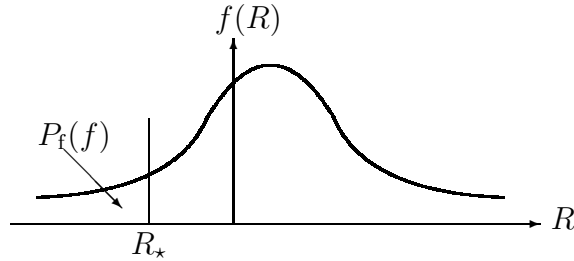

Figure 14: $q(c, f)$ is the c th quantile of $f(R)$.
- Given R_* , the failure probability is (fig. 14):